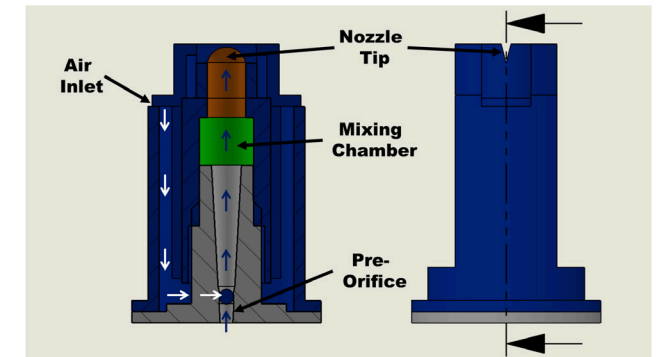

Figure 2. Cut away model of a TeeJet AIXR nozzle. White arrows show airflow and blue arrows show liquid flow.
1. **Nozzle Flow Rate** - The flow rate through the nozzle varies with orifice tip size, nozzle pressure and spray solution characteristics. Figure 2 shows a cutaway of a typical low-drift air-induction nozzle with identifiable parts labeled. The size of the nozzle is determined by the size of the pre-orifice for low drift nozzles or the main orifice